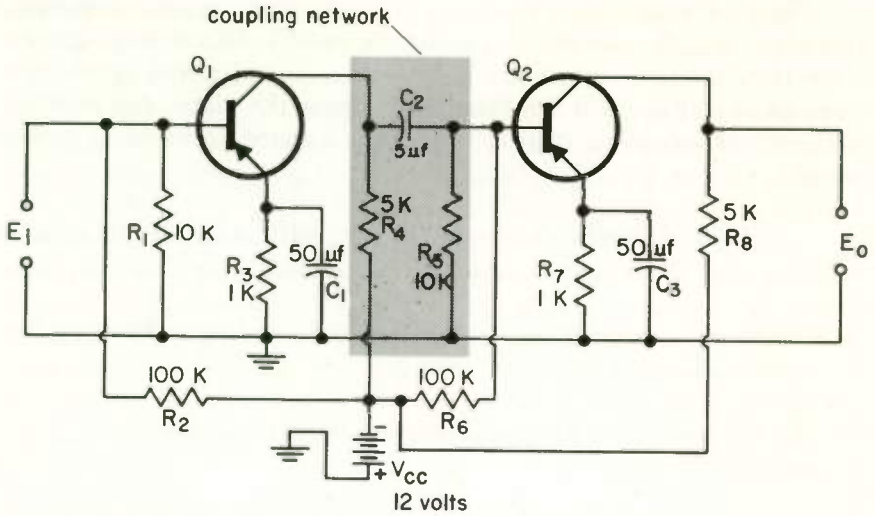

Fig. 8 Two-stage transistor amplifier using RC coupling.
With *RC* coupling, the highest power gain is obtained when the transistor is connected in the common-emitter configuration. A two-stage amplifier of this type is shown in Fig. 8. If NPN transistors are used in place of the PNP transistors shown, the polarity of the voltage source V_{cc} , and also the polarity of all electrolytic capacitors, should be reversed.
Resistors in a tube circuit that correspond to R_3 and R_7 , Fig. 8, are used to obtain grid bias. Emitter resistors R_3 and R_7 are used for an entirely different purpose, namely, for circuit stabilization. Unlike
1. The polarity of the base potential with respect to ground of transistor Q_1 in Fig. 8 is (*positive*) (*negative*).
4. There is a _____ - degree phase difference between the input and output signals in the circuit of Fig. 8.
6. In Fig. 8, if C_2 is an electrolytic capacitor, the left-hand plate should have a _____ polarity.
7. In the circuit of Fig. 8, if NPN units were used, (a) the emitter arrows should point _____, (b) the power supply polarity (*should*) (*should not*) be changed, and (c) capacitor C_2 (*should*) (*should not*) be reversed. (d) The input and output signals would have a _____-degree phase difference.
8. Resistor R_7 , Fig. 8, serves for circuit _____.